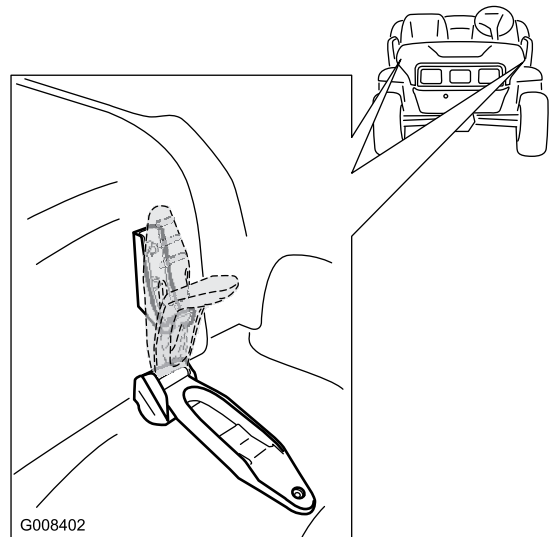

Figure 19
1. Release the rubber straps on both sides of the hood (Figure 19).